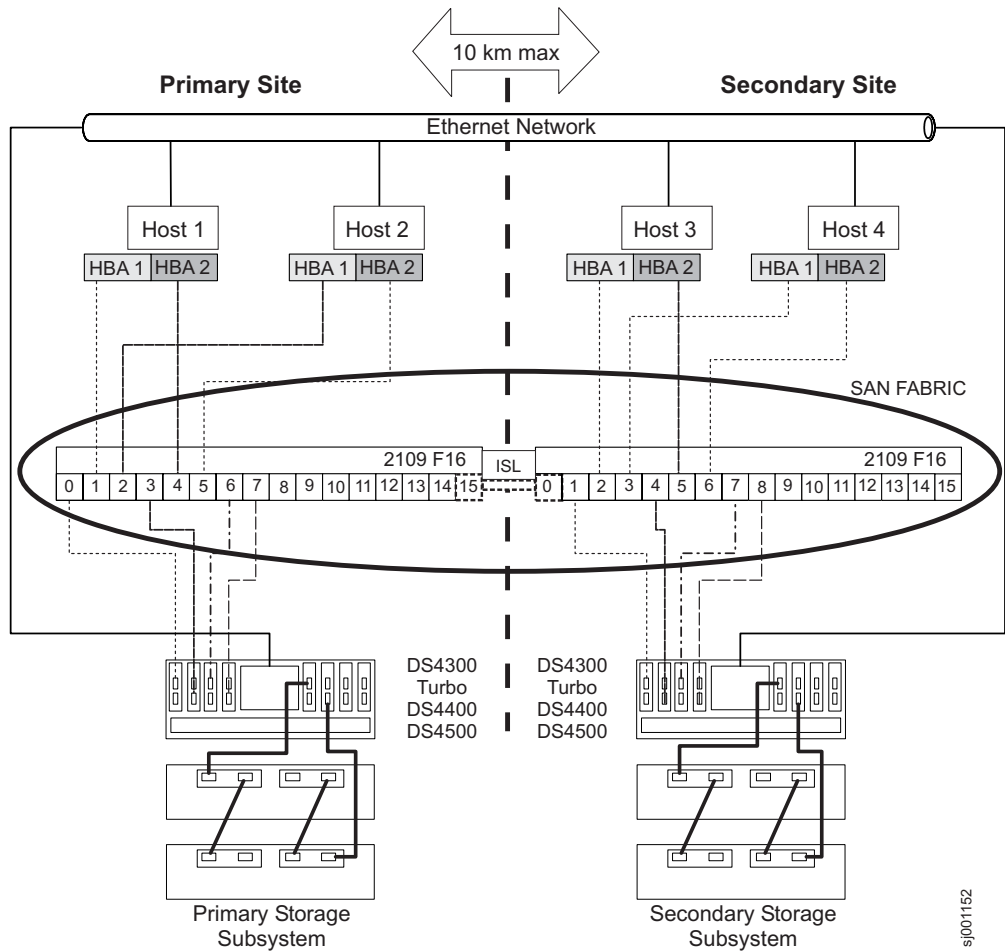

Figure 40. Campus configuration
The Campus configuration offers the same functionality as the Highest Availability Campus configuration, but contains only one switch at each site, rather than two. The configuration is still redundant for host bus adapters, controllers, and remote logical drive mirroring ports, but is a single point of failure for fibre-channel switches. If a switch at either site fails, the Remote Mirror Option cannot function. For this reason, the Highest Availability Campus configuration is preferred for total environment redundancy. Figure 40 on page 120 shows the Campus configuration after installation is complete.
Important: The fibre-channel switches in Figure 40 contain 16 ports each, which leaves many unused ports per switch. If you are performing switch zoning using the fibre-channel host port number, instead of the WWNN of the SAN fabric logged-in ports, do not include fibre-channel switch ports with no fibre-channel connections in the zone definition. If you include these unused ports in your zones, unauthorized access to the SAN might result.
- Refer to Figure 40 on page 120 as you complete the steps in this procedure.